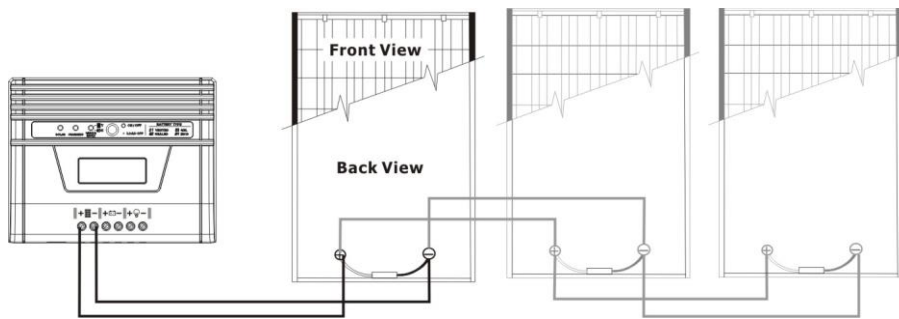

Fig. 9
3) Multiple solar modules in parallel connection (Refer to Fig. 9): Each module's voltage must not exceed the maximum solar module open circuit voltage. And, the sum of their solar power must not exceed the maximum capacity of the unit.